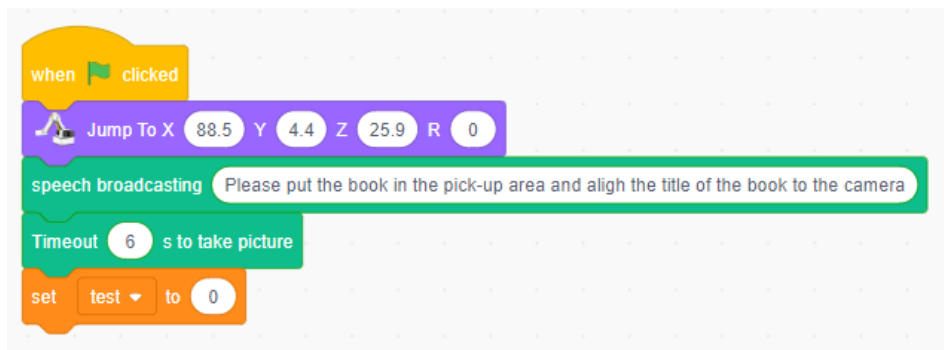

Figure 5.20 Defining the variable
Step 6: Check the accuracy of OCR recognition. Create a variable "test", click on the **"Variables"** tab, and drag the "Set test to" block to connect to the previous one, as shown in Figure 5.20.